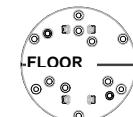

Fig. 1
1. Install the bracket on the wall, using the screws and anchors (see fig. 1).